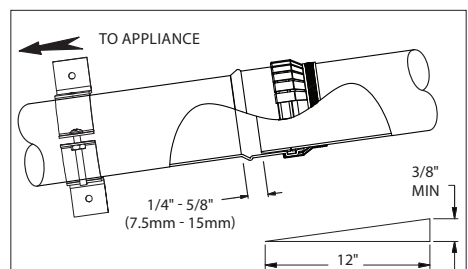

Figure 7
Refer to the appliance manufacturer's installation instructions for requirements of condensate drainage. Ensure proper system slope for drainage. **(Fig.7 and 20)**
3. **The slope of the vent pipe must be at least 1.8° (3/8" rise per ft run, 31mm per meter) back to the appliance.** Ensure there are no dips in the system where condensate can collect. **(Fig.7)**
PP Pipe sections must be disengaged 1/4"-5/8" per joint (to allow for expansion) and sloped 1.8°(3/8"per ft) back to the appliance per Fig.7 for proper condensate flow.